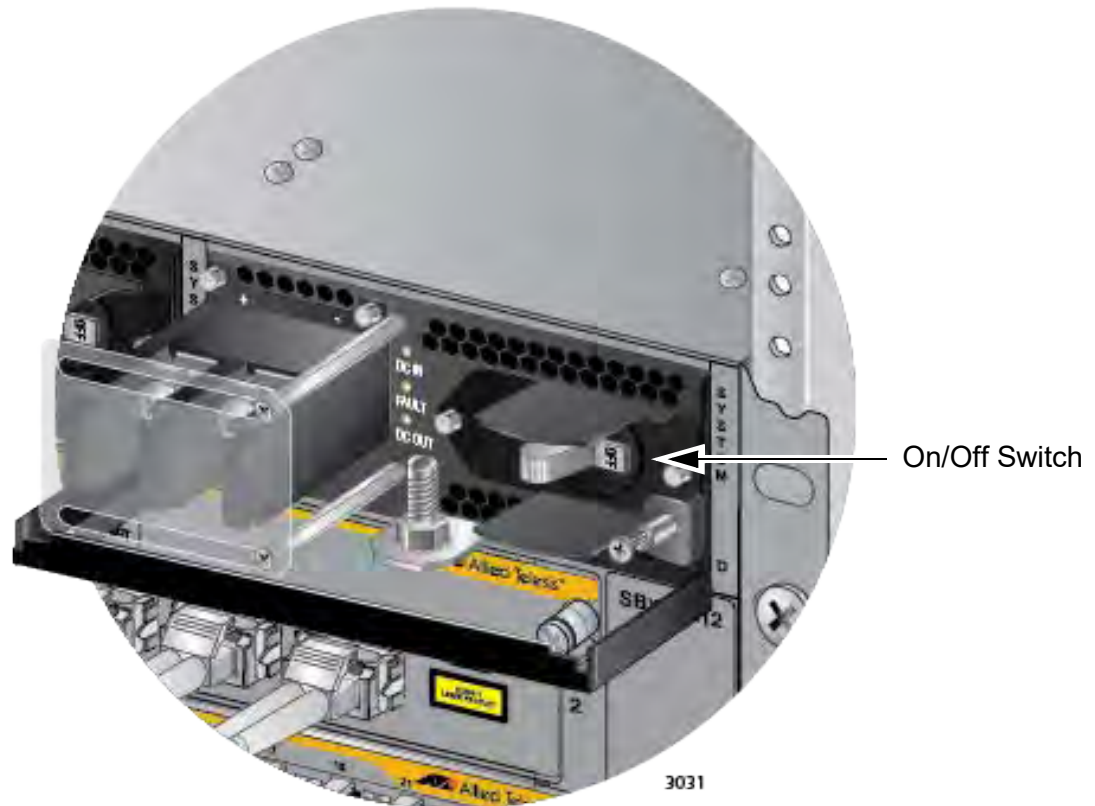

Figure 136. On/Off Switch on the AT-SBxPWRSYS1 DC Power Supply
3. Verify that the On/Off switch on the AT-SBxPWRSYS1 DC Power Supply is in the Off position. Refer to Figure 136 on page 215.
2. Verify that the On/Off switch on the AT-SBxPWRSYS1 DC Power Supply is in the Off position. Refer to Figure 136 on page 215.
2. Turn the On/Off switch on the power supply to the On position. Refer to Figure 136 on page 215.